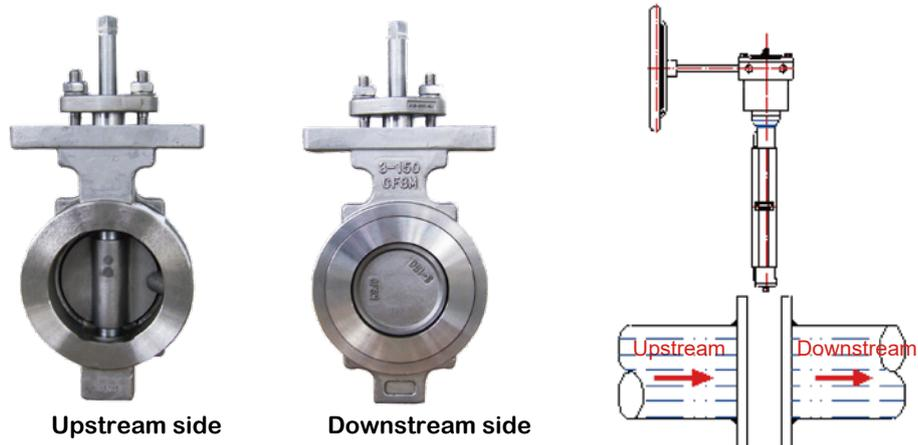

Fig.1 Recommend mounting direction
4.3. The visible shaft side of the disc is considered the high-pressure side of the valve, meaning the best closure performance is obtained on this side of the valve, and a determination as to the best installation should be made, to utilize this feature. Therefore the shaft side is recommended to be mounted on upstream, while the disc side to be mounted on downstream. This may not necessary be the normal flow direction of the system (Fig.1).